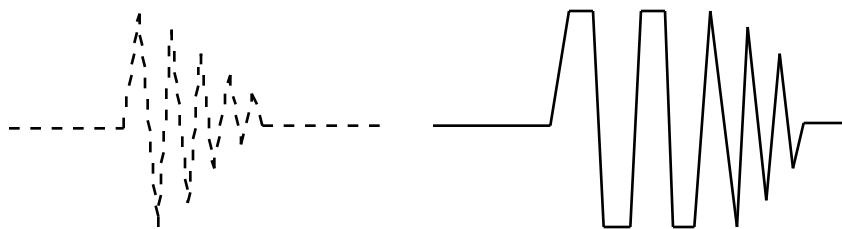

Figure 4. A normal lock signal (left) and a clipped lock signal (right)
4. Transmitter level and gain: When **LD** is entered, the vertical scale (**VS**) is automatically set to 12, and allows for proper scaling of the lock signal. The **TXRF** level is directly proportional to the lock transmitter power. To prevent saturation of the lock signal, turn the **GAIN** to about 700 - 800 and then set the **TXRF** power so that the signal is on scale and not clipped (see Figure 4). The **TXRF** can be set to 90 - 100 for most solvents if the samples are of normal concentration. An exception is acetone and the recommended **TXRF** power level is 50 - 60. The **TXRF** power level should never exceed 130 when locked and the gain will usually be between 600 - 1200. Remember that the lock level parameters should be rechecked after shimming, particularly if the lock level has increased dramatically with shimming. Many times both the **TXRF** power and the **GAIN** can be decreased after shimming. To check for saturation, turn **TXRF** power down slightly. If the lock level slowly goes up, the lock signal is probably saturated. Slowly keep turning the **TXRF** power down until the lock signal does not go up any more. Increase **GAIN** and continue to drop the **TXRF** power until it stabilizes.